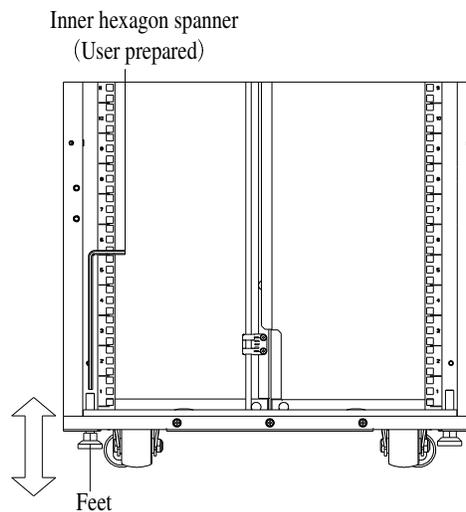

Figure 3-21 Adjusting Mode on Feet
1. Insert the inner hexagonal wrench with a CR-V6 model (user-owned) in the inner hexagon hole of the feet (see Figure 3-21).
2. Rotate the inner hexagonal wrench to raise or lower the feet as shown in Figure 3-21.